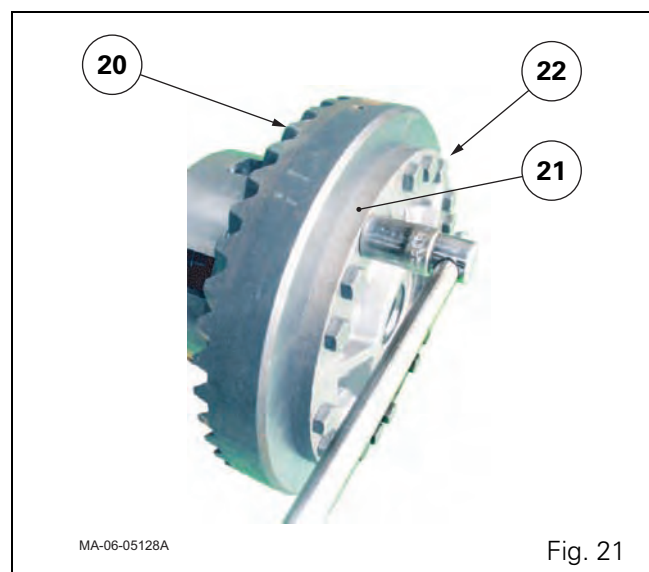

Fig. 21
107. Remove the screws (22) and remove the ring gear (20) (Fig. 21).